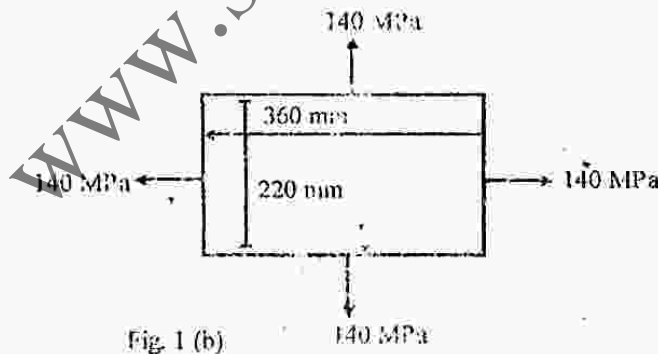

Fig. 1 (b)
- b) A steel plate having dimensions 360mm x 220mm x 30mm is subjected to bi-axial normal stresses as shown in fig 1(b). Assuming $E=200\text{GPa}$ and Poisson ratio $=0.3$. Calculate 7